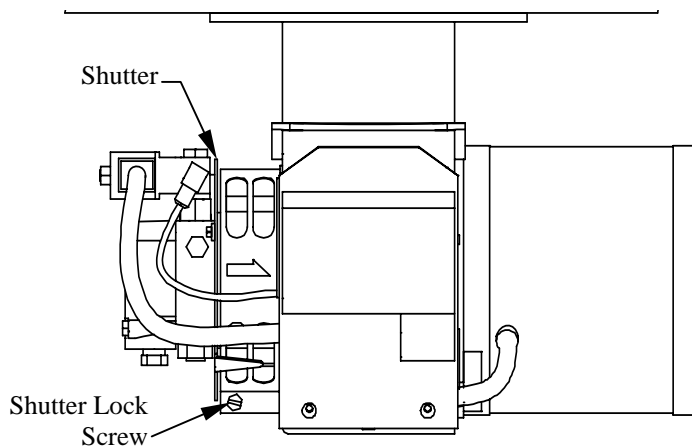

Figure 14
4. Attach the 12" garden hose piece with the funnel to the pump inlet. (Figure 14)
- a. Locate the shutter as shown in Figure 14 below. The shutter is a thin circular metal plate located on the outside of the air band. The shutter adjusts independently from the air band and is used to fine-tune the amount of intake air.